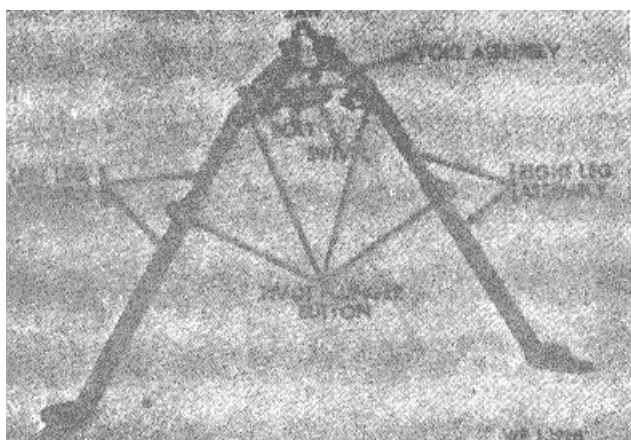

Figure 1-10. Rifle Bipod, M2.
b. The Rifle Bipod, M2 (fig 1-10) is a light weight portable, folding mount which is assembled to the gas cylinder of the rifle.